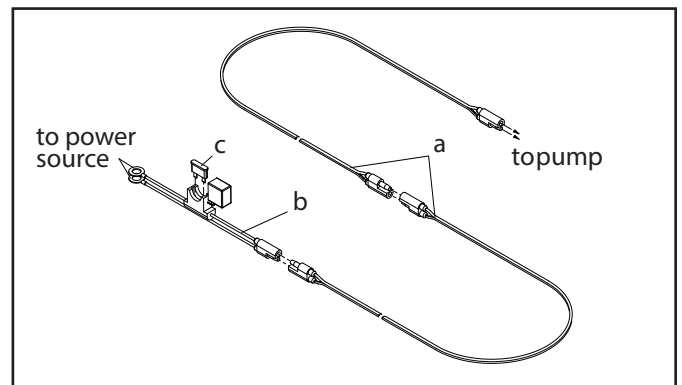

Figure 4: Wiring harness
2. There are two 8' wiring harness extensions (a) included with the applicator. Connect the pump wiring harness to one or both 8' harness extensions (depending on the length required to reach the power source). Connect the battery wiring harness (b) and 15 amp fuse (c) to the wiring harness extension and attach it to the battery or another 12 volt, 10 amp, DC power source (Figure 4).